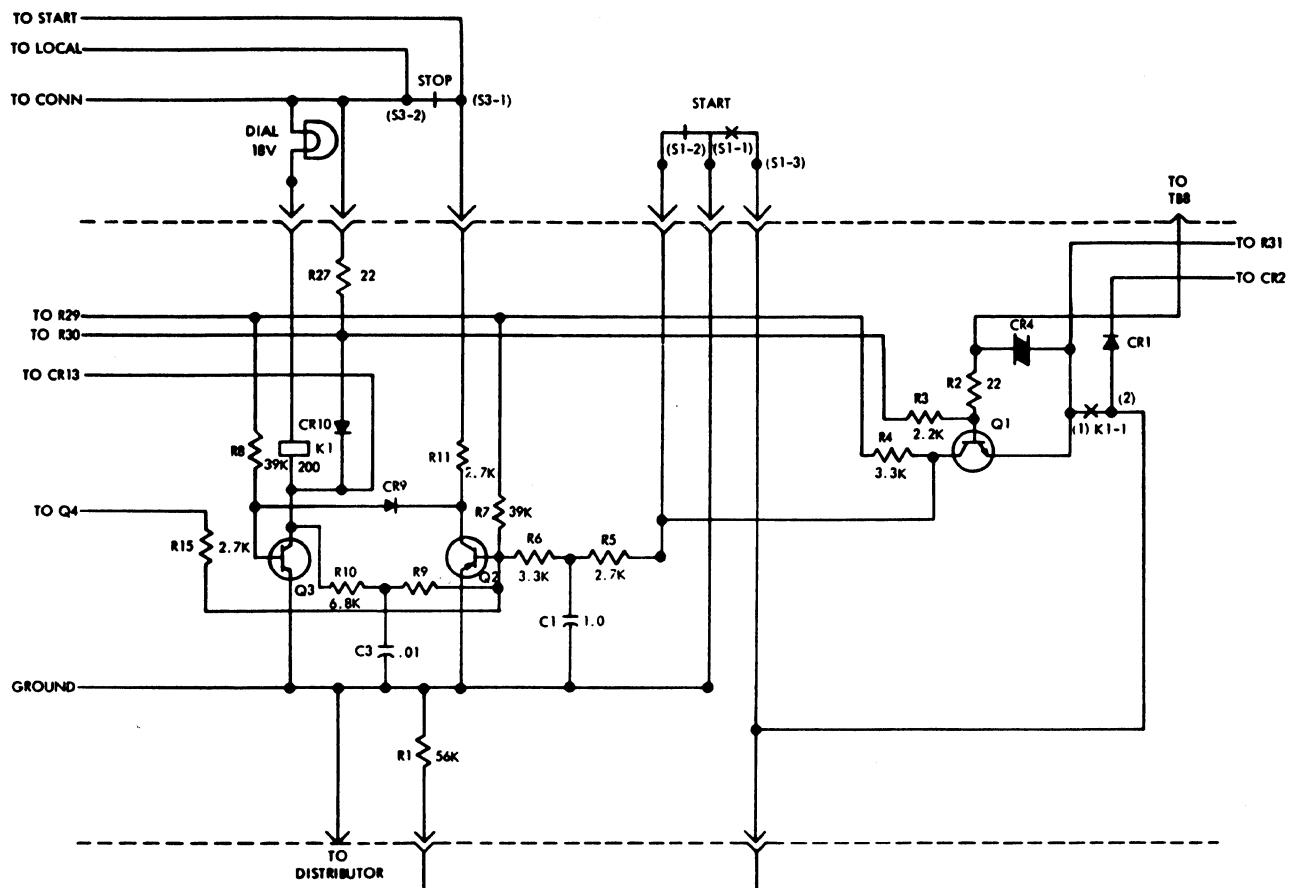

Figure 2 - Proceed-to-Dial Circuit
**3.06** The proceed-to-dial circuit (Figure 2), consists of a binary with a line input amplifier. The amplifier consists of transistor Q1 and its associated components, and the binary consists of transistors Q2 and Q3 along with their associated components. The amplifier is connected to the binary through a low-pass filter delay network (R5 and C1) which suppresses signal line noise. The input to the binary, coming from the filter network and passing through R6, will turn on the proceed-to-dial circuit. Control inputs through R15 and the stop pushbutton contacts 1 and 2, are used to turn off the circuit. Operation of the transistors in the proceed-to-dial circuit is as follows: